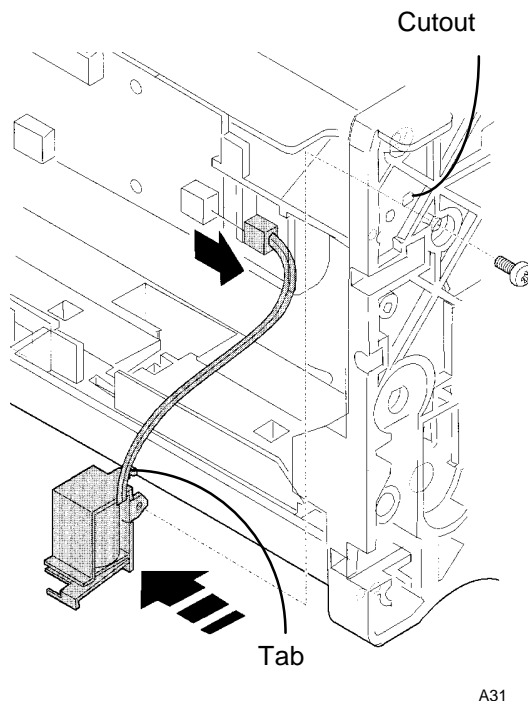

Figure 2. Removing the Transfer Drum Cleaning Solenoid
3. (Figure 2): Remove the screw and remove the Transfer Drum Cleaning Solenoid.